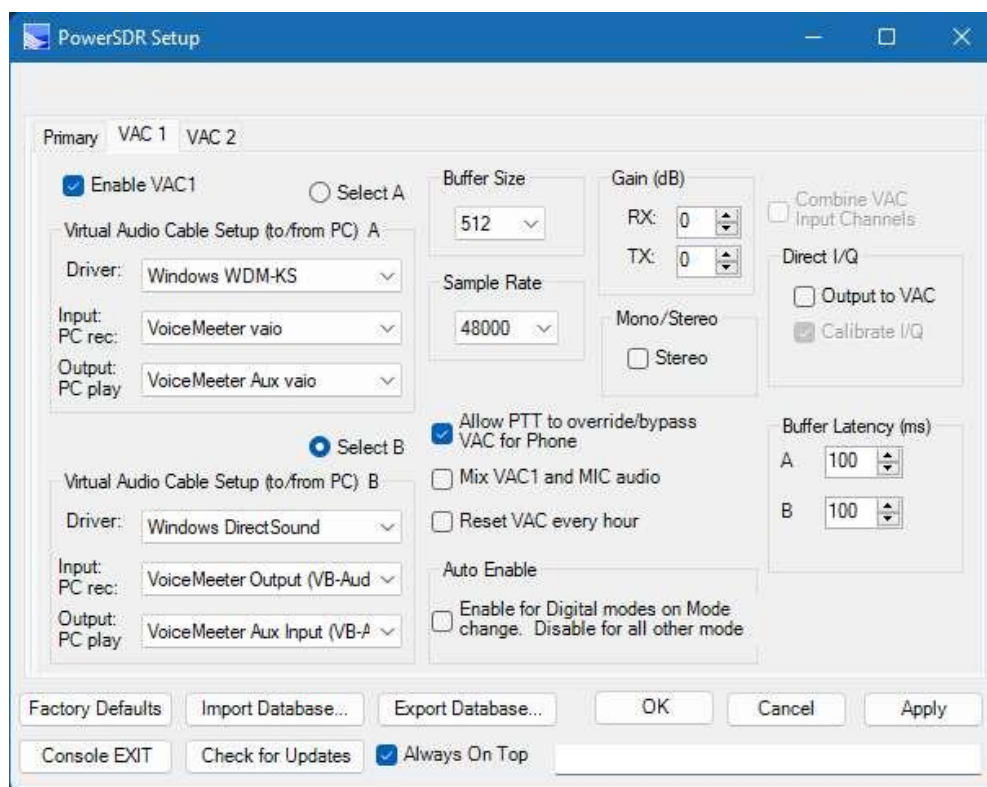

Figure 45: Setup -> Audio -> VAC1
2. In PowerSDR open the **Setup-> Audio-> VAC1** (see Figure 45 below). Check **Enable VAC1**, Select a *Virtual Cable (like VoiceMeeter Output)* as the **Input**, and a *Virtual Cable (like VoiceMeeter Aux input)* as the **Output**.